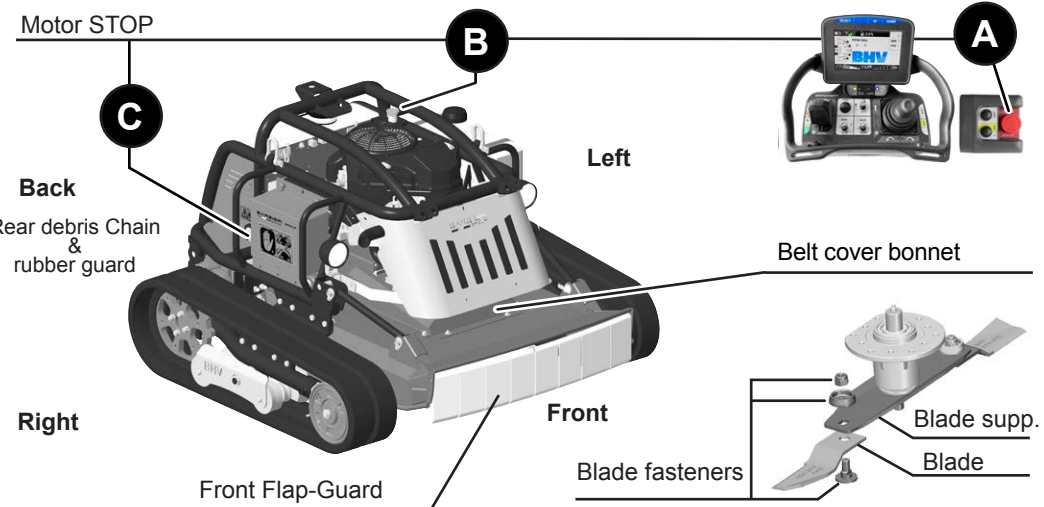

Fig. 5
The terms “FRONT” - “REAR” - “RIGHT” - “LEFT” used in this handbook and in the spare parts catalogue, are referred to the machine as shown in Fig. 5
- 1 - Engine-Stop devices (A) (B) and (C)(Fig.5)
- 3 - Front and rear shield to stop the objects thrown by the blade (Fig. 5)
- 4 - Blade and blade fasteners (Fig. 5)